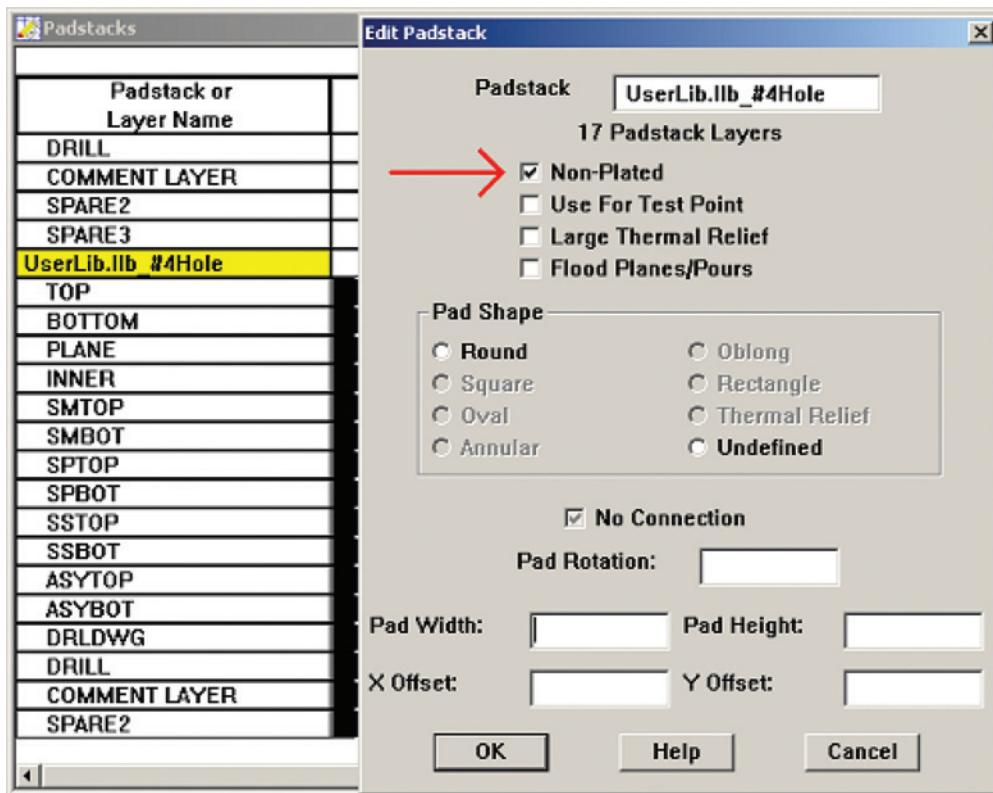

Figure 8-54 Defining a nonplated mounting hole.
**To make a nonplated mounting hole** (regardless of whether or not it has pads) select the **Padstack** spreadsheet and select an existing padstack or right click and select **New** from the pop-up. Set up the padstack pads per Table 8-3 depending on whether or not you want pads. Double click the padstack name to display the **Edit Padstack** dialog box as shown in Fig. 8-54. Place a check mark in the **Non-Plated** box and click **OK**.